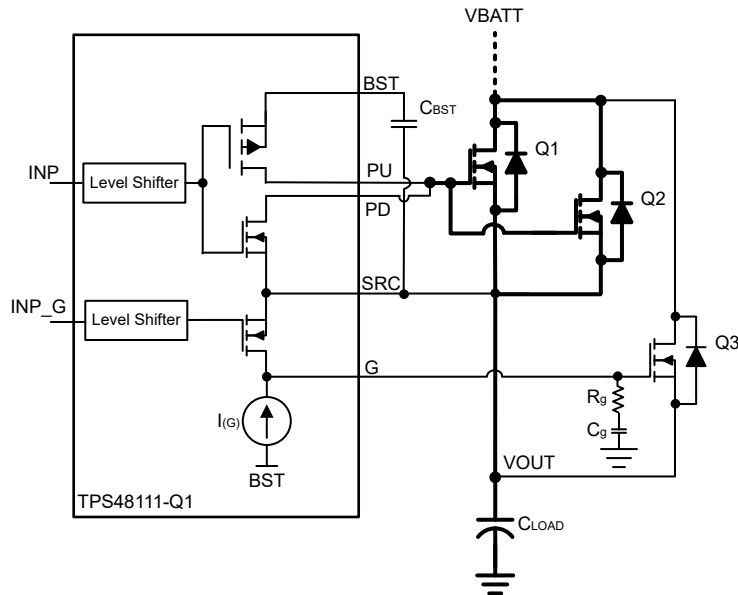

Figure 9-7. Capacitor Charging Using Gate Slew Rate Control of Precharge FET
The TPS48111-Q1 integrates precharge gate driver (G) with a dedicated control input (INP_G). This feature can be used to drive a separate FET that can be used to precharge the capacitive load. Figure 9-7 shows the precharge FET implementation for capacitive load charging using TPS48111-Q1. An external capacitor C_g reduces the gate turn-ON slew rate and controls the inrush current.